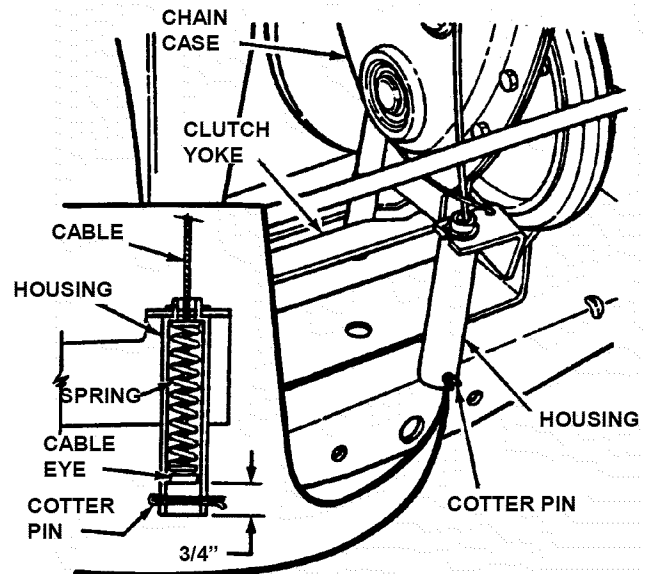

FIGURE 4.9
5. Measure the distance between end of clutch/brake cable and bottom of housing. Measurement should be  $3/4$ ". See inset of Figure 4.9.
7. Adjust cable up or down using the jam-nuts to obtain a distance of  $3/4$ " between end of clutch/brake cable (adjustment shown in inset of Figure 4.9) and bottom of housing. See Figure 4.9.
5. Move transmission shift lever to the neutral (N) position.
6. Rotate clutch yoke (clutch yoke shown in Figure 4.9) out with your hand and work belt between drive disc and rubber driven disc.